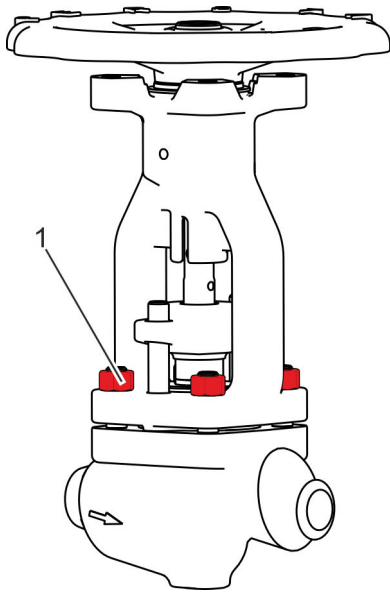

Fig. 50: Unscrewing the threaded connections on the bonnet
- 45. ▶ Loosen and remove the nuts (Fig. 50/1) on the bonnet.